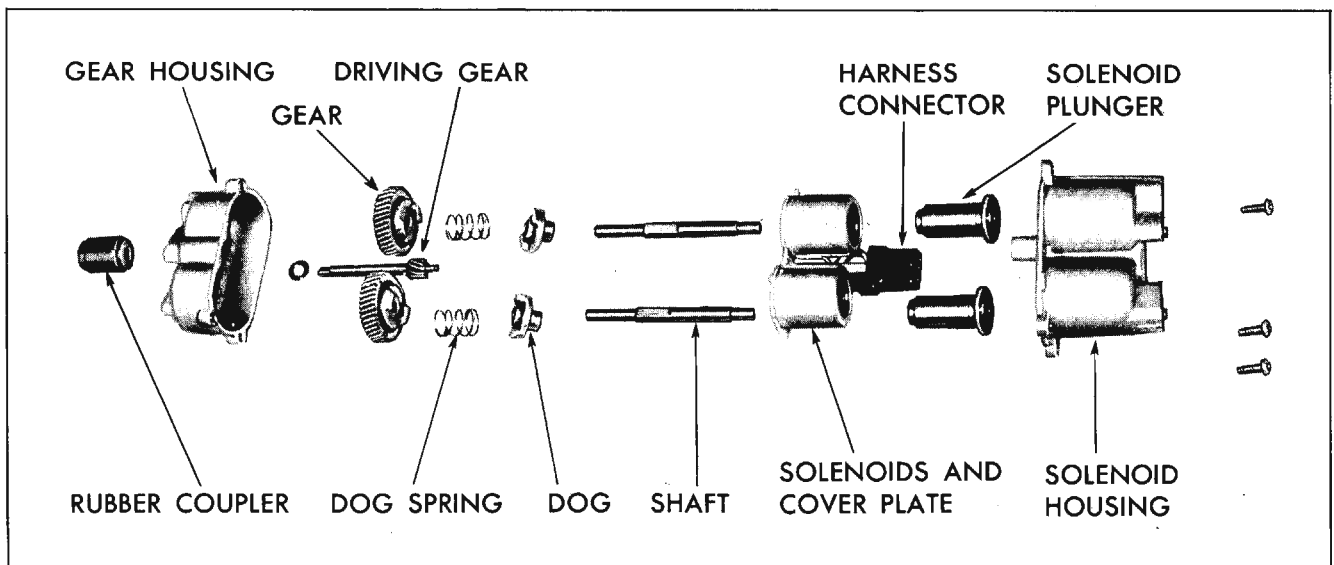

Fig. 16-92 Four-Way Seat Transmission
2. Remove screws securing gear and solenoid housings together; then, carefully separate housings and remove component parts of transmission assembly. (Fig. 16-92)